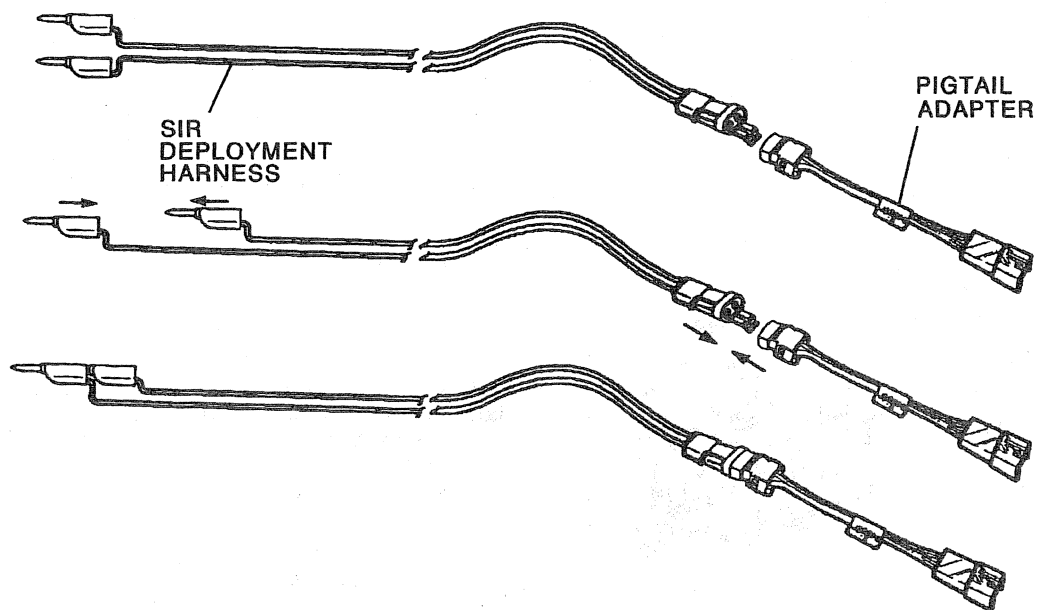

Figure 14—Shorting the SIR Deployment Harness Wires
Figures 14 through 21
3. Short the two SIR deployment harness leads together by fully seating one banana plug into the other. SIR deployment harness shall remain shorted and not be connected to a power source until the air bag is to be deployed (Figure 14).
4. Connect the appropriate pigtail adapter to the SIR deployment harness (Figure 14).
20. Short the two SIR deployment harness leads together by fully seating one banana plug into the other (Figure 14).
26. Ensure that the SIR deployment harness has been disconnected from the power source and that its two banana plugs have been shorted together by fully seating one banana plug into the other (Figure 14).